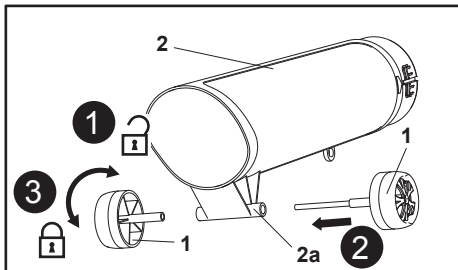
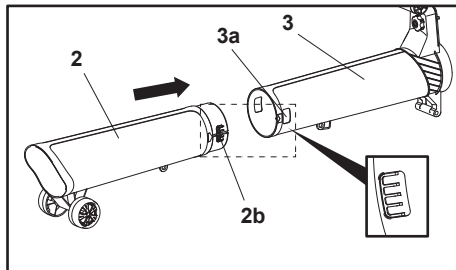

Fig. 2
Fig. 3
1. Unscrew the guide rollers (1) and separate them (Fig. 2, step 1).
2. Lead the axles of the guide rollers (1) into the opening of the connection port (2a) on the lower vacuum tube (2) and tighten them properly (Fig. 2, steps 2, 3).
3. Ensure the guide rollers (1) can rotate smoothly.
4. Align the slot of the lower vacuum tube (2) with the inner sliding pin of the upper vacuum tube (3) and insert it all the way to the stop (Fig. 3, step 1). Ensure that the two latches (2b) engage in the location holes (3a) (Fig. 3).